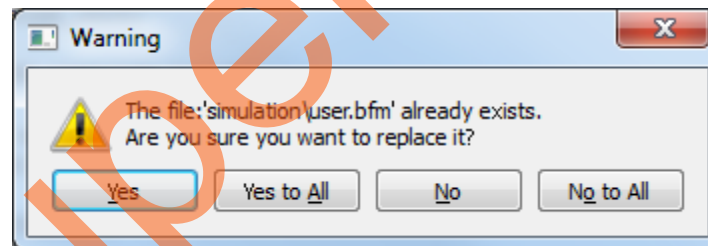

Figure 31.Replacing Existing user.bfm File
- A warning as shown in Figure 31 will come up. Select **Yes**.